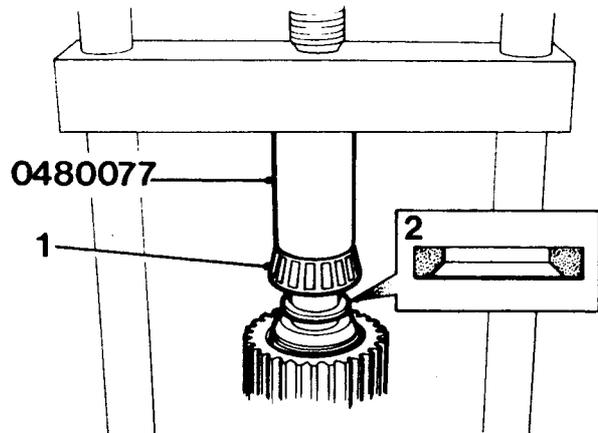

Fig.22 Fitting pilot bearing cone
- pilot bearing cone with 0480077 (fig.22).